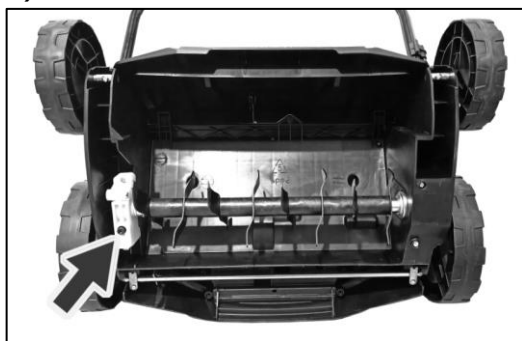

Fig.13
- a) Turn the machine over, remove the hex bolts using the Allen key (Fig.13).